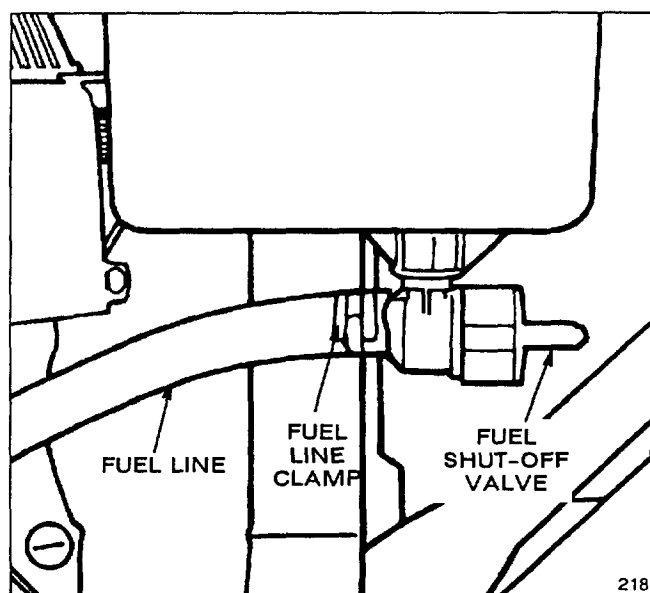

Figure 4
4. Slide end of fuel line onto fuel shut-off valve fitting. Secure in place with fuel line clamp (Fig. 4).